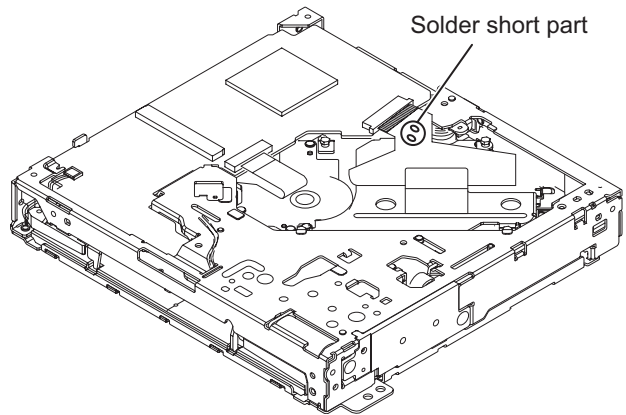

Fig.1
3.2.1 Removing the Traverse mechanism assembly (See Fig.1 to 6)
- (1) Solder the short land section on the flexible wire of pickup. (See Fig.1)